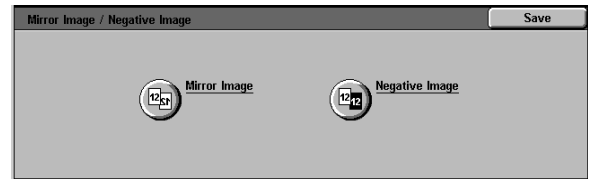

Figure 31: Invert Image screen
- 1 Touch the **Invert Image** button on the Output Formats tab to display the Invert Image screen (Figure 31).